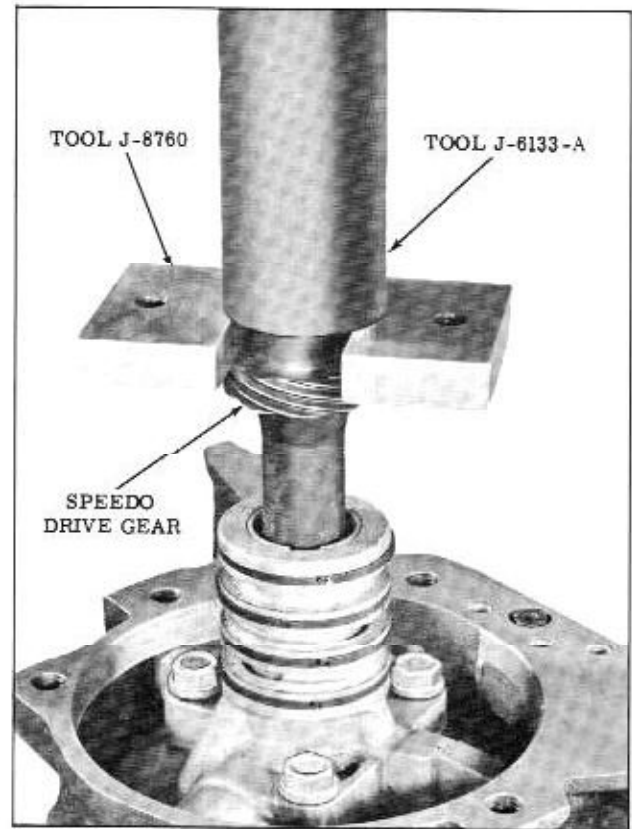

Fig. 3-105 Installing Speedometer Gear
27. Install the speedometer drive gear 1/2" past snap ring groove using Tool J-8760 and 6133-A. (Fig. 3-105, 3-106)